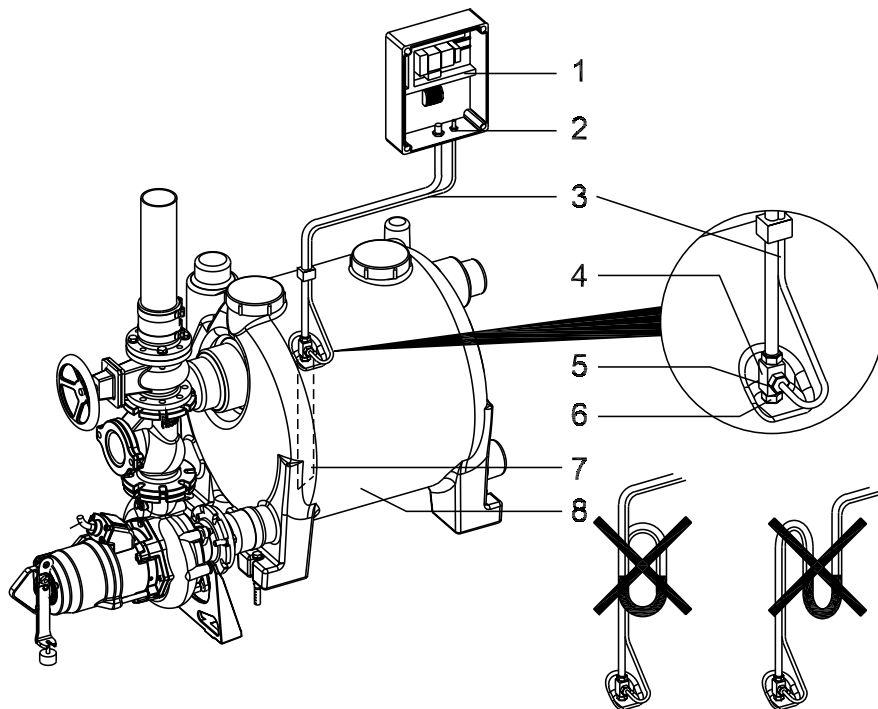

Figure 9 Installation of the control pipe
Control line (3) has a continuous rise as shown in Figure 9.